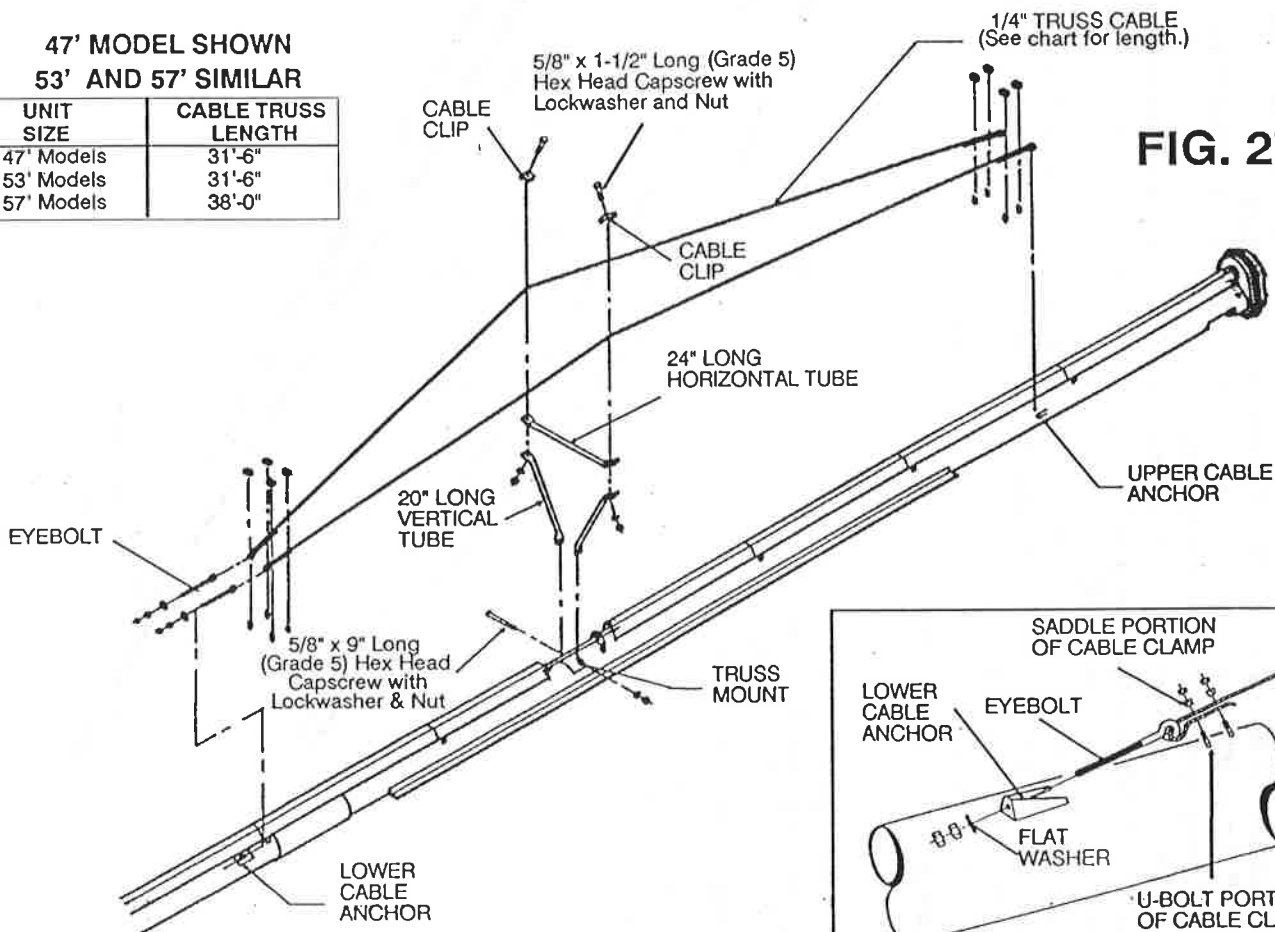

FIG. 27
Step 1. To assemble the bolt-together type truss, attach the two vertical truss tubes to the truss mounts on the auger housing using 5/8" x 9" long (grade 5) hex head capscrew, lockwasher and nut. (See Fig 27.) To locate the truss mounts on the auger housing, measure from the head end of the auger housing (at the discharge end). It should be 24'-2" back for 47', 53' & 57' models.